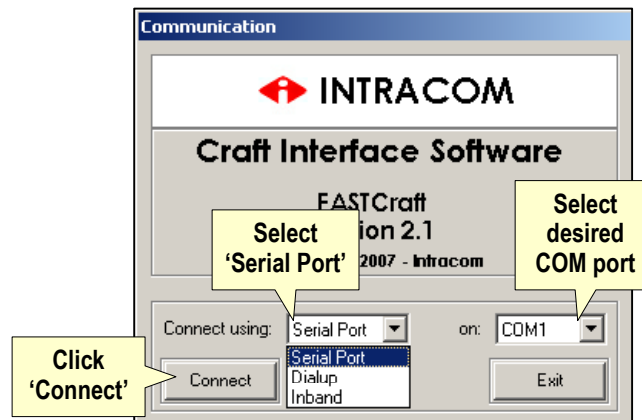

Figure 7 – Serial port access (local)
- 2 Select **Serial Port** and the port (**COM1** through **COM4**) to which the Craft cable is connected on your computer (Figure 7).